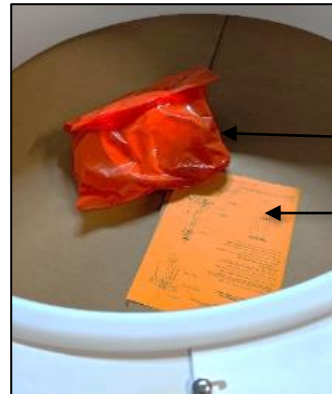

FIG. 3 INSTALLATION
2. INSTALLATION INSTRUCTIONS – (as shown in FIG. 3) Please completely read the install instructions before starting installation.